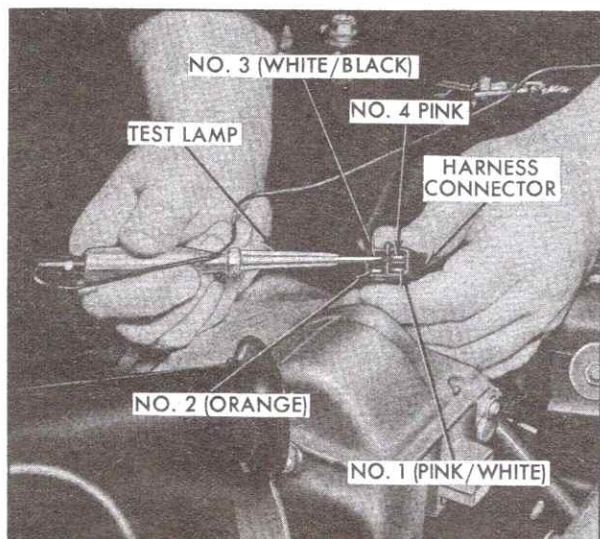

Fig. 15-11 Preliminary Electrical Checks
5. Ground one test lamp lead to terminal No. 1, Fig. 15-11. Lamp should light. If it does not light, wiring in selector control assembly or assembly is defective.
6. Ground one test lamp lead and touch other lead to terminal No. 2, Fig. 15-11, and push switch lever to ON (center) position. If lamp fails to light, check for defective wiring in selector control assembly.
7. Ground one test lamp lead and touch other lead to terminal No. 3, Fig. 15-11. Push switch lever to AUTO position and allow switch to come back to ON position. Test lamp and green indicator light should light when slide switch reaches AUTO position and then go out when slide switch returns to ON position. If test lamp fails to operate as described above, check for defective wiring in selector control assembly. Checks for indicator light will be covered later.
8. Ground one test lamp lead and touch other lead to terminal No. 4, Fig. 15-11. Push switch lever to AUTO position and manually hold switch lever in AUTO position. Depress brake pedal. Test lamp should go out and then come on when brake pedal is released. If lamp fails to operate as described above, check for improperly adjusted Cruise Control switch (see Note 20) or defective wiring in selector control assembly. Allow switch lever to return to ON position.